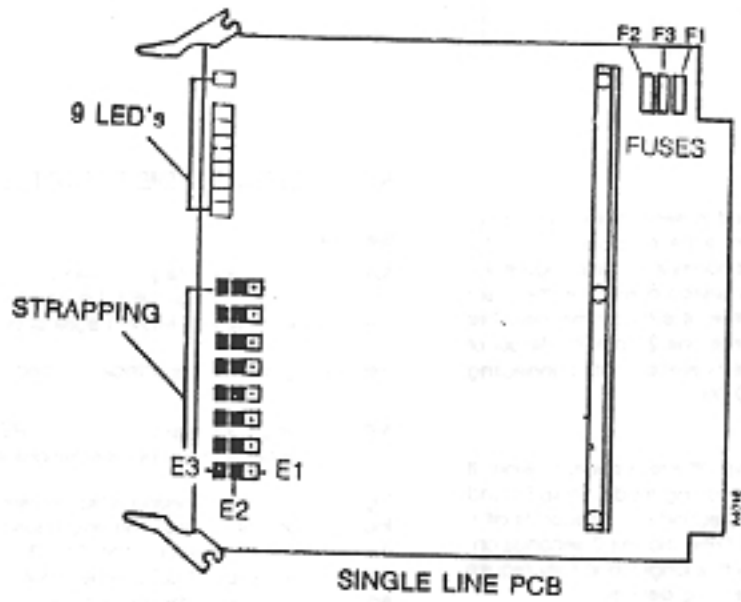

Figure 9 B-8SLU-B PCB
**4.11** One B-SLU-B PCB is required to serve the maximum of eight extensions. The PCB must be strapped in the 2-3 position to indicate that single line telephones are used ( Figure 9 ). The SLU PCB can be inserted in any station position in the main or expansion cabinet ( if used ). However it is recommended that the PCB be inserted in a position where one 25 pair cable out of the KSU serves all 8 station ports. This prevents cross connecting two station blocks to access the 8 OPXs.